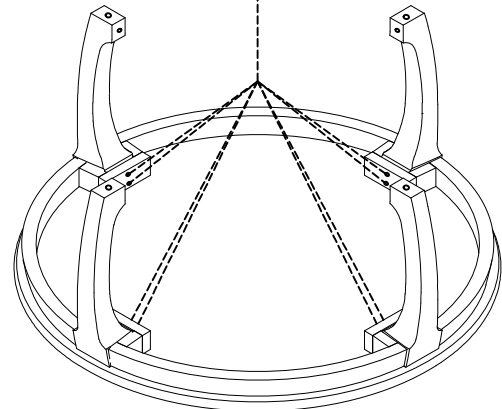

Figure 2
2. Attach bottom cross frame to the bottom of leg, using Curve washers (E), Lock Washers (C), Bolts (B) with Allen key (F). (see Figure 2).